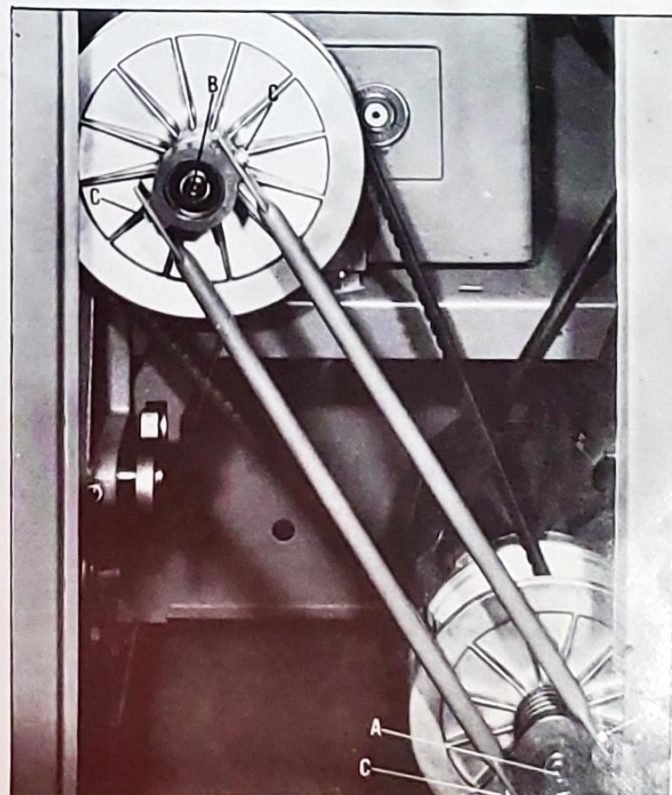

Fig. 7
The correct belt tension is obtained when the distance between the center point of the motor pulley (A) Fig. 7, and the center point of the driven pulley (B) is $18 \frac{1}{4}''$.
2. Loosen four screws (C) Fig. 7, loosen the nuts that hold motor to motor plate and move motor up or down until the distance between the center points of the pulleys in $18 \frac{1}{4}''$.